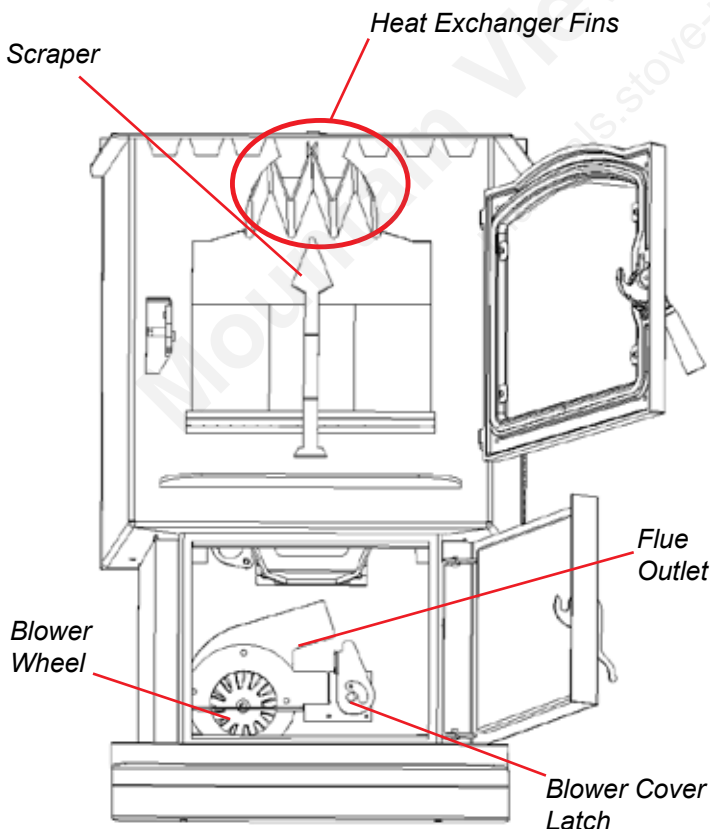

Fig 27
2. Clean heat exchanger with scraper as shown in fig 27.